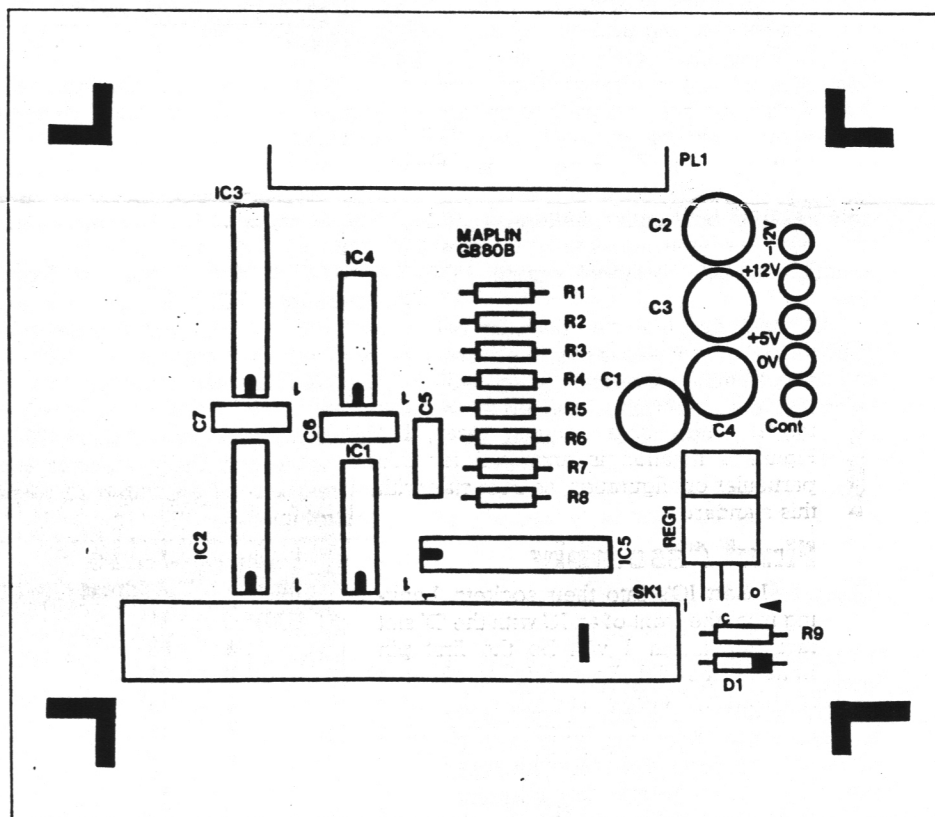

Figure 2. PCB Overlay
With reference to the Parts List and Figure 2, insert all five IC holders, noting that those for IC's 1 and 4 are 16 pin types, IC's 3 and 5 are 20 pin and IC2 is a 14 pin type. Push them down onto the PCB, then carefully solder each terminal in place. Mount C5, 6 and 7, which are circular disc capacitors, ensuring clearance between leads and nearby tracks. Next insert resistors R1 to R9. They are all of the same value and colour coded: Yellow, Violet, Red ('normal' code), or Yellow, Violet, Black, Brown (5 band code). Fit diode D1 which must be the correct way around with the Cathode (K) or ringed end pointing to the outside edge of the PCB. Align the band with the legend. Now insert capacitors C1, 2, 3 and 4. These electrolytic type capacitors are polarised and must only be fitted one way around. The case or negative end is designated with a -V sign on the package, or by the shortest of two leads. Unmarked or longest leads are then +V; insert according to the legend. Finally, the 3-pin regulator REG1 can be fitted with the flat side containing the heatsink bracket laying over a section of track on the PCB. Bend all 3 terminals downward, approximately 6mm away from the plastic body and locate each one through its mounting hole. This square of copper track beneath the regulator helps to dissipate heat radiated from the heatsink, although it is fairly insignificant. Solder remaining components in place, remove excess leads, wires etc, and clean track face with brush and thinners. Because plated through holes have been incorporated, it is possible for solder to run down to the component side of the PCB. Therefore, closely inspect both sides of the board, looking for short circuits and probable errors.